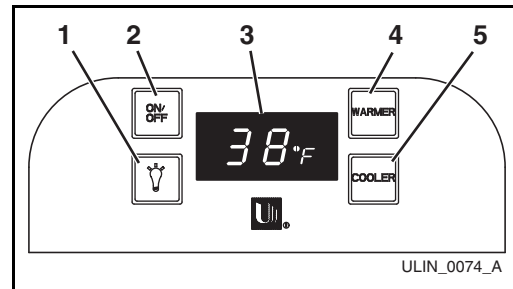

Figure 4
The electronic control with digital display (**Figure 4**) is configured to show a single temperature continuously. This set-point temperature is a base number used by the controller to maintain the temperature zone in your unit. The factory default set-point is 38°F. This set-point temperature is used as a gauge if further temperature adjustments are required.
U-Line products supplied for 110 VAC operation have temperatures displayed in a default Fahrenheit (°F) configuration (**Figure 4, 3**). Models supplied for 220 VAC operation have temperatures displayed in a default Celsius (°C) configuration.
The display can easily be adjusted for either type of temperature display. Press and hold the LIGHT button (**Figure 4, 1**) and simultaneously within five seconds press the COOLER button (**Figure 4, 5**) three times to change the display as desired.
1. Press the WARMER button (**Figure 4, 4**) for five seconds. The display (**Figure 4, 3**) will indicate the actual temperature.